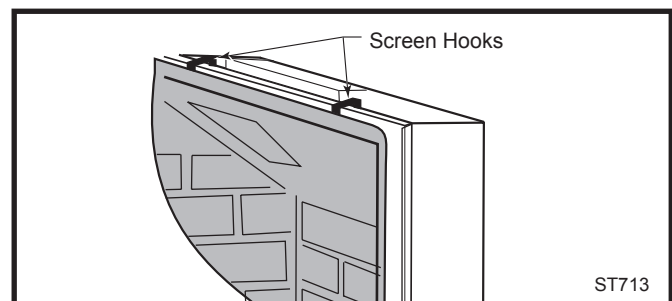

Fig. 12 Remove screen.
1. Remove screen. (Fig. 12) Remove rear, left and right log bracket assembly by unfastening the two screws which hold the burner in place.